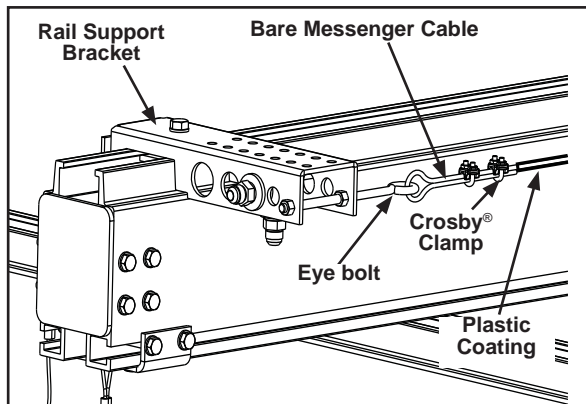

Figure 3-123
- Step 6. Attach eye-bolt to rail support bracket assembly (bracket with fittings). See Figure 3-123.
- Step 11. Loop end of messenger cable around eye-bolt. Attach Crosby® clamps over dead end of stripped cable with cable resting in saddles. Tighten nuts on clamps, alternating sides. See Figure 3-123